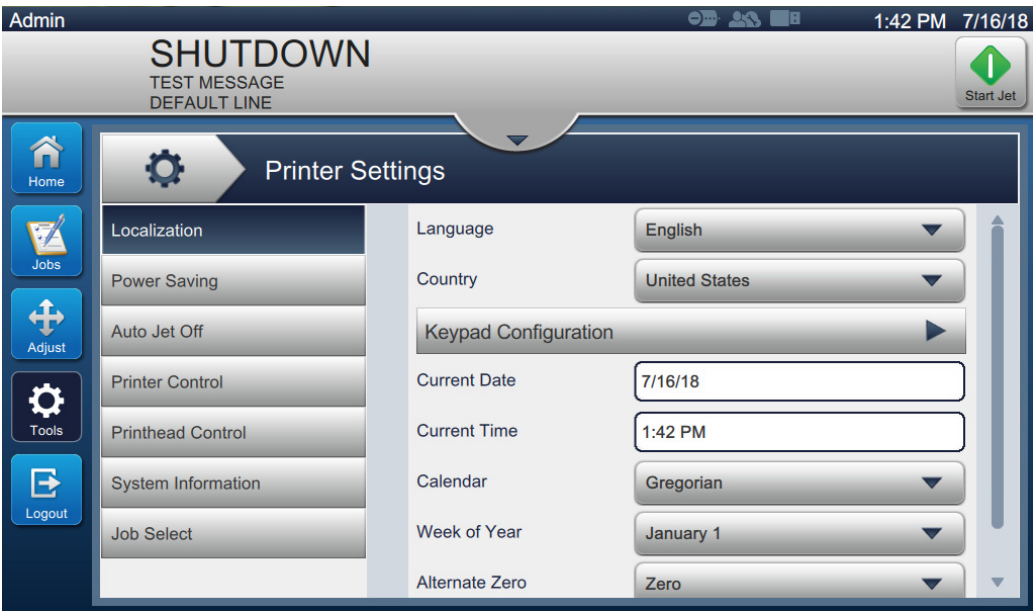

Figure 6-17: Printer Settings
1. Touch the  button from the Tools screen. The Printer Settings screen opens as shown in Figure 6-17.